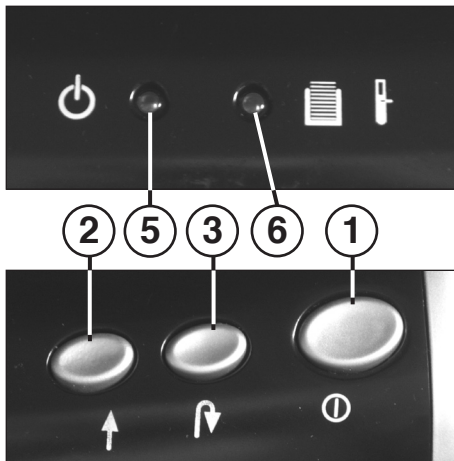

fig. 1
- 1 = Pushbutton switch „ready“ (fig. 1)**
- 2 = Pushbutton „Cutting system forward“ (fig. 1)**
- 3 = Pushbutton „Cutting system reverse“ (fig. 1)**
- 5 = Pilot lamp „ready“ (fig. 1)**
- 6 = Pilot lamp (red / yellow) (fig. 1)**
Turn machine on with pushbutton switch (1) (fig. 1). Pilot lamp lights up (5) (fig. 1).
If the receptacle for paper is full, the machine switches off. A horn sounds. The control display (6) (fig. 1) lights up (red).
- Pull the receptacle (9) with the collection tray (10) out of the lower housing.
- The horn stops. The control display (6) (fig. 1) goes out.
Please make sure that the shredder is switched off over night (pushbutton switch (1) (fig. 1)).